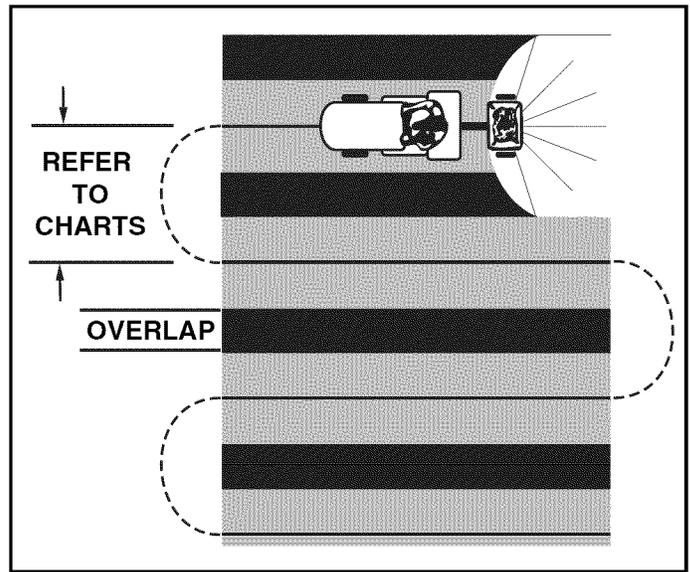

FIGURE 12
- To insure uniform coverage, make each pass so that the broadcast pattern slightly overlaps the pattern from the previous pass as shown in figure 12. The approximate broadcast widths for different materials are shown in the application chart on this page.